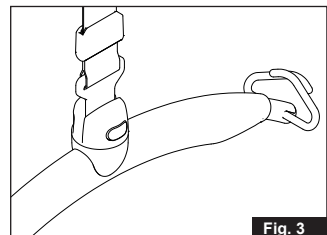

Fig. 3
3. Rotate the strap attachment to a vertical position (fig. 3).